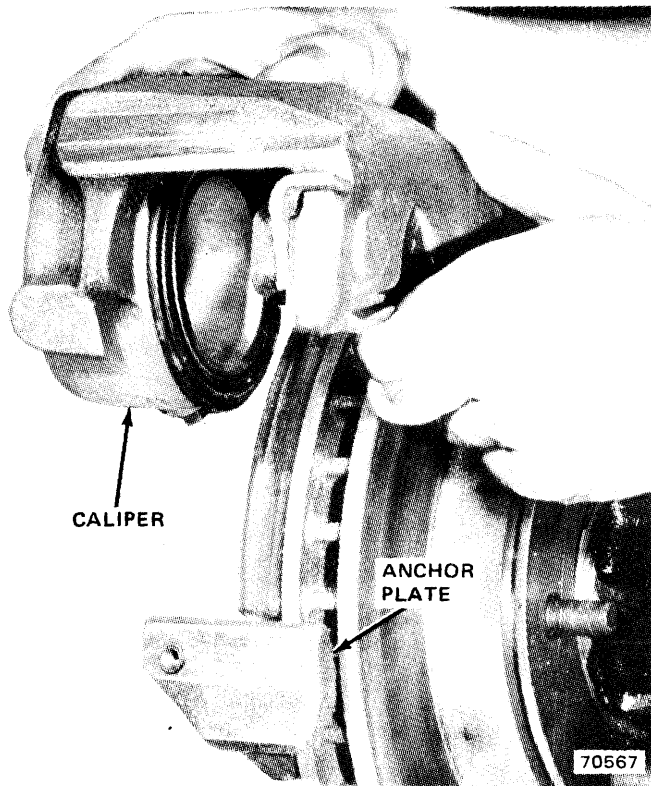
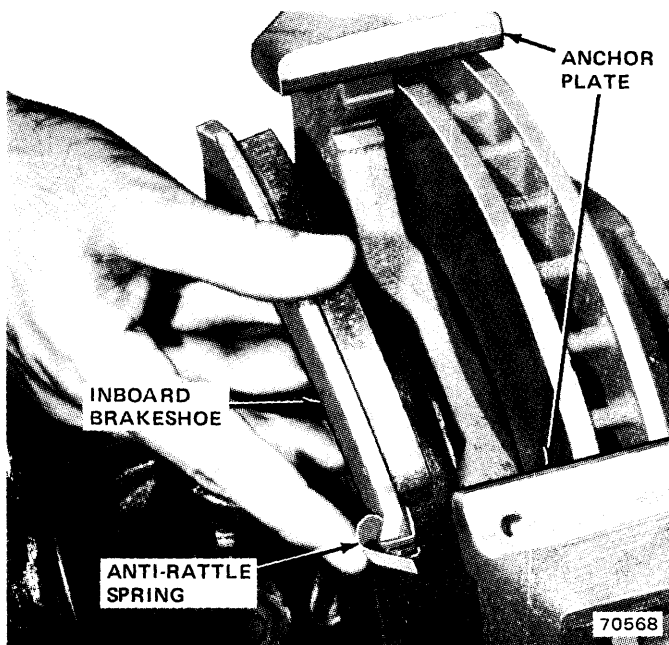

Fig. 9-47 Removing—Installing Caliper
Fig. 9-48 Removing Inboard Brakeshoe and Anti-Rattle Spring
(9) Lift caliper assembly out of anchor plate and off rotor (fig. 9-47).
(10) Place caliper on spring. Do not let brake hose support weight of caliper.
(11) Remove inboard brakeshoe from anchor plate (fig. 9-48).
(12) Remove inboard brakeshoe anti-rattle spring from inboard shoe (fig. 9-48). Note position of anti-rattle spring for assembly reference.
(13) Remove outboard brakeshoe from caliper.
(2) Install assembled inboard brakeshoe and anti-rattle spring in caliper anchor plate (fig. 9-48). Do not dislodge anti-rattle spring during shoe installation.
(4) Install caliper over rotor and into position in anchor plate (fig. 9-47).